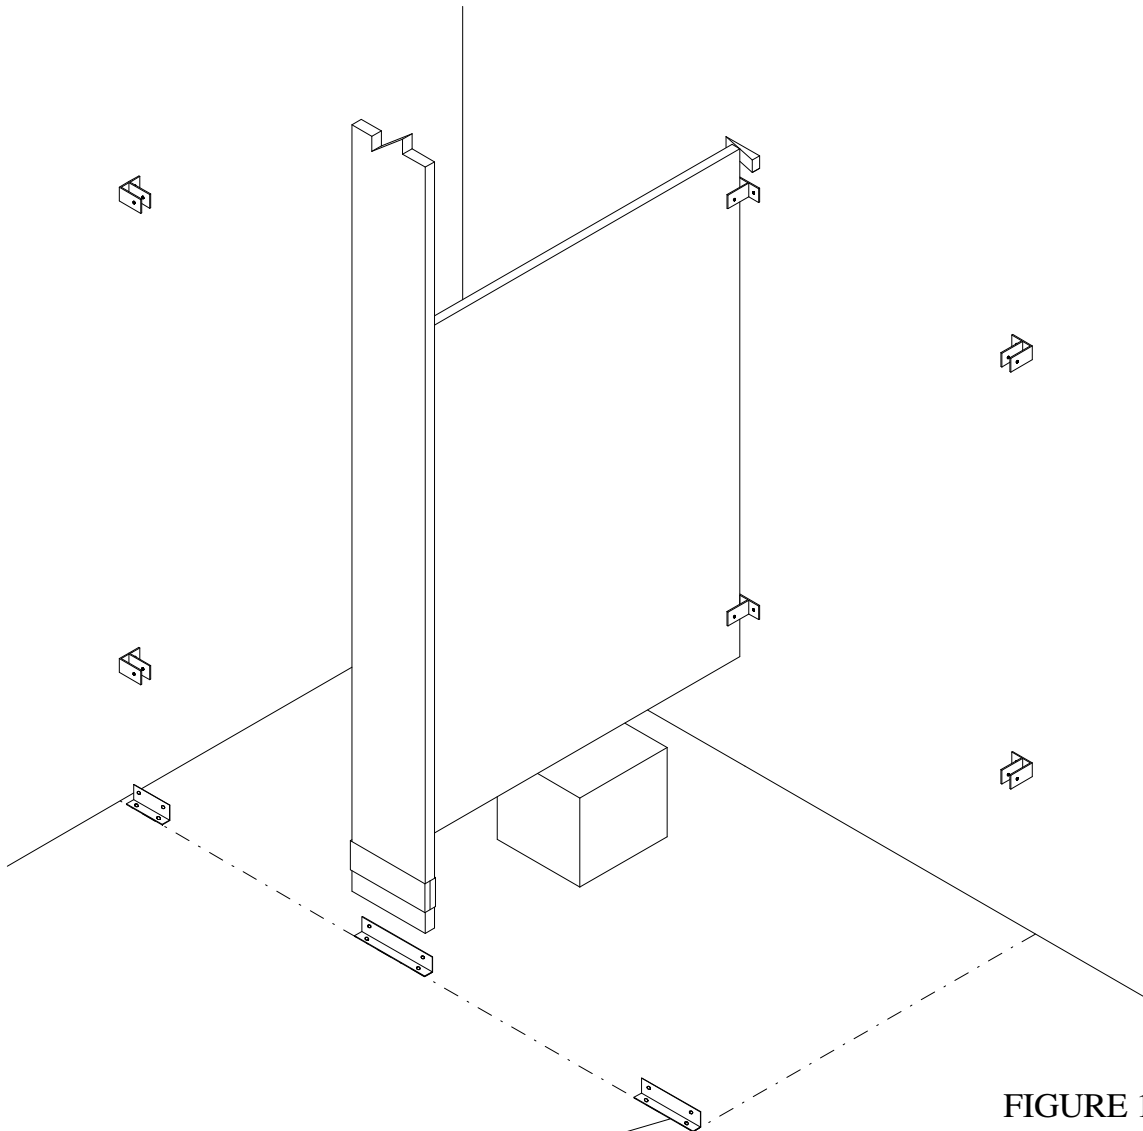

FIGURE 1
G. Plumb pilaster, place wedge at top rear of panel between panel and wall. (see figure 1)